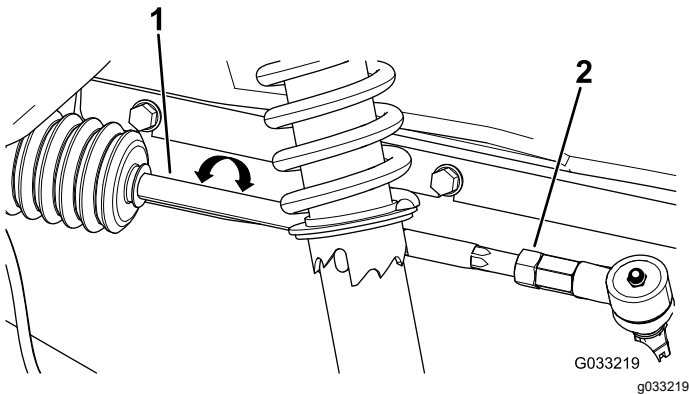

Figure 51
2. If the measurement does not fall within 0 to 6 mm (0 to 1/4 inch), loosen the jam nuts at the outer end of the tie rods (Figure 51).